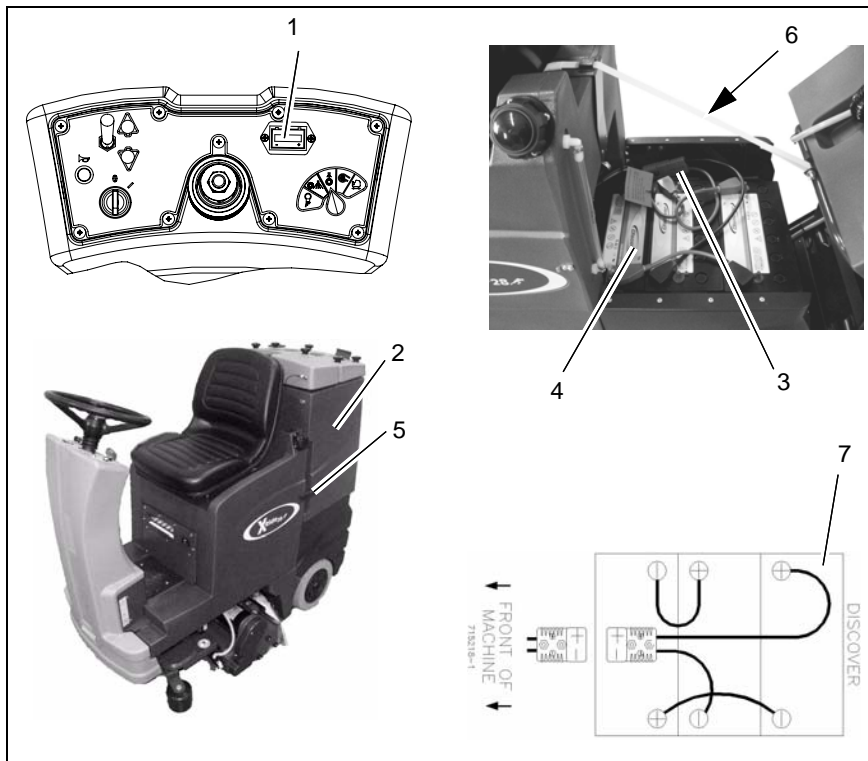

Fig.11
Connect the charger to the battery connector (Fig. 11/3) Charging batteries is recommended if at least one bar of the battery gauge has extinguished after operation of the machine. Observe the operating instructions of the charger as well as the operating instructions of the battery manufacturer. In case it is intended to change the type of battery the charger has to be adjusted only by Minuteman contract workshops.
3. Open empty recovery tank (Fig. 11/2) and secure by strap (Fig. 11/6).
4. Disconnect battery connector (Fig. 11/3).
2. Open empty recovery tank (Fig. 11/2) and secure by strap (Fig. 11/6).
4. Connect battery poles and enclosed connecting cables according to battery connection/layout (Fig. 11/7). Tighten and grease poles.